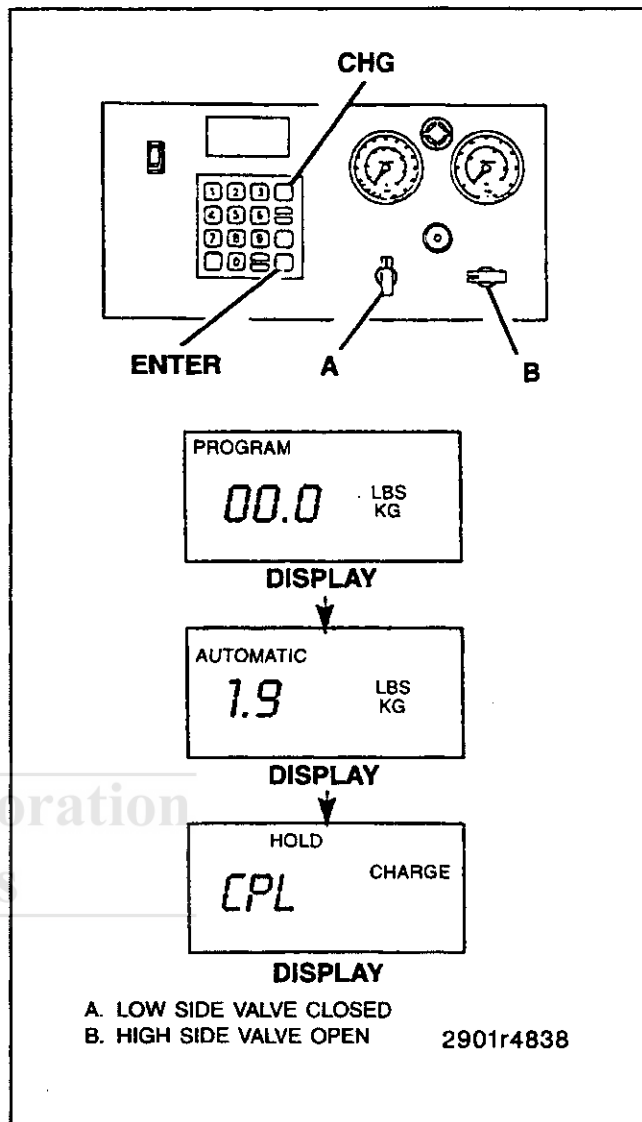

Figure 19—System Charging
1. Close the low side valve (A) on the control panel (figure 19).
2. Open the high side valve (B) on the control panel.